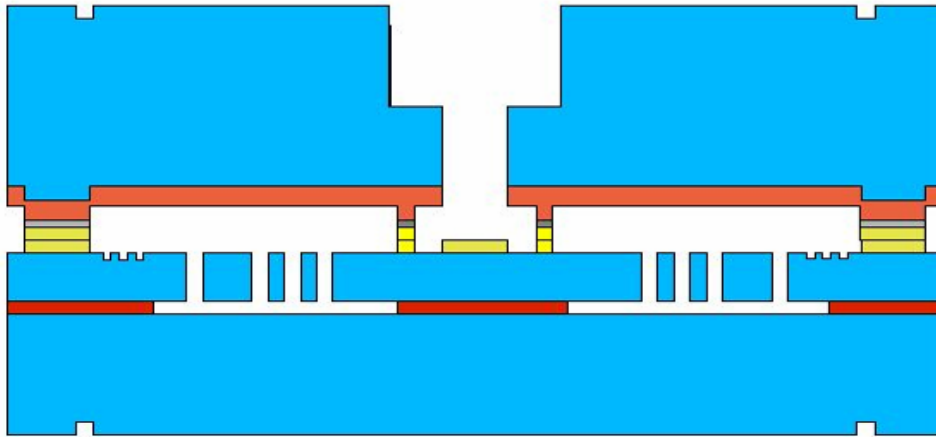

Figure 5.1: Cross section view of the Tronics' SOI HARM MPW process technology
- a) Tronics in France is offering microsystems MPW foundry services based upon their Silicon On Insulator High Aspect Ratio Micromachining (SOI HARM) technology. A cross-sectioned view of the process is shown in Figure 5.1 below.